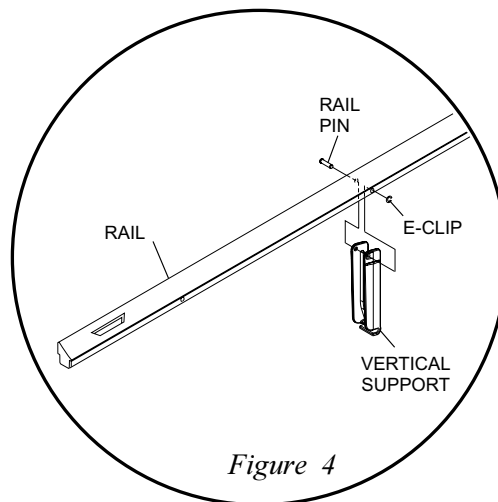

Figure 4
3. Remove all seven vertical supports from the first rail. Set aside e-clips and pins to be reused later. Refer to Figure 4.